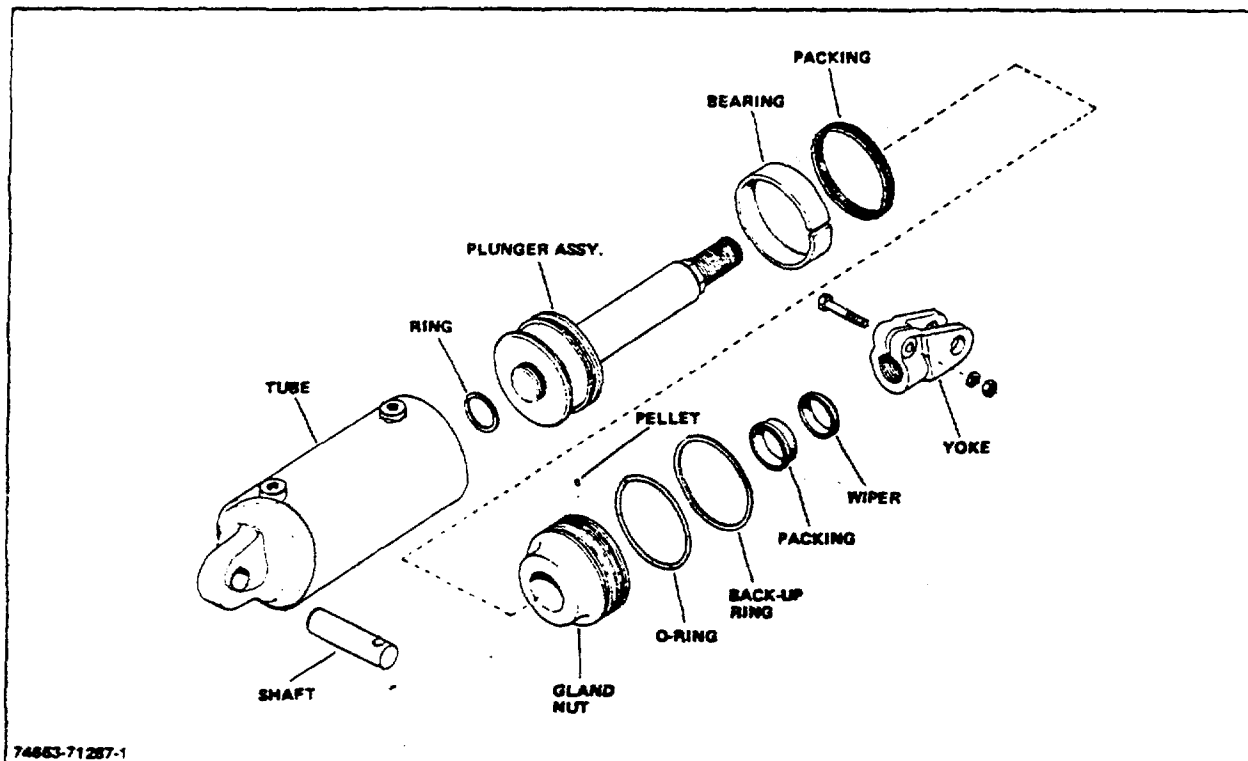

Figure 8-3. Tilt Cylinder Components (Current Type)
- Remove gland nut (Fig 8-3) and pry out packing and wiper. Also remove O-ring, back-up ring, and nylon pellets.